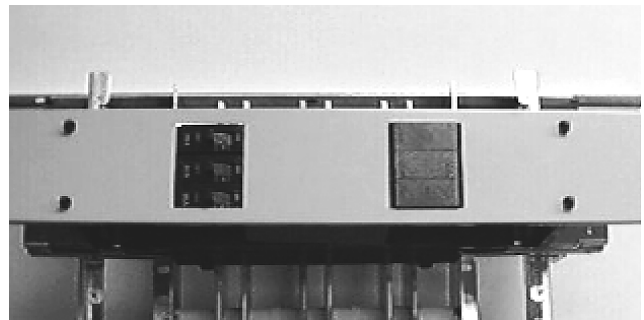

Figure 2. Installing the breaker cover to the filler supports.
- 5. Install the circuit breaker cover.** Snap the assembled breaker cover over the flexible prongs on the filler supports, as shown in Figure 2.